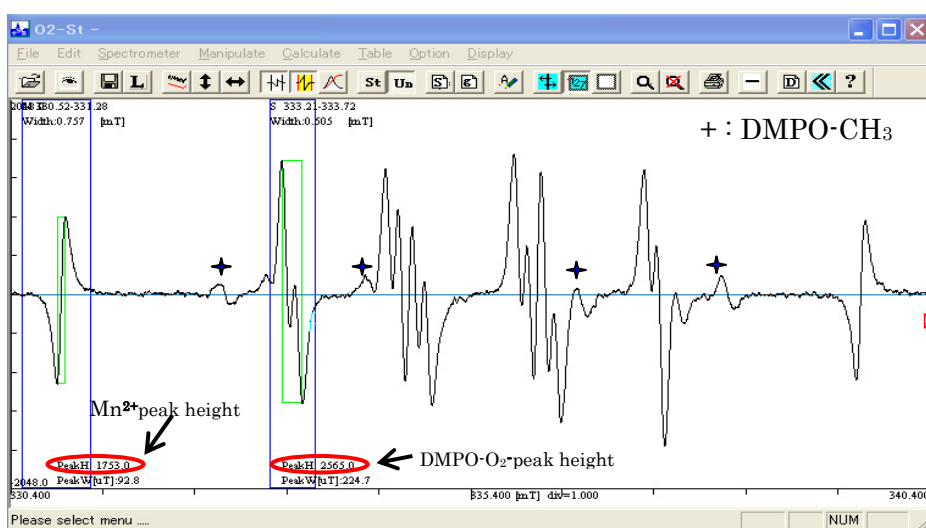
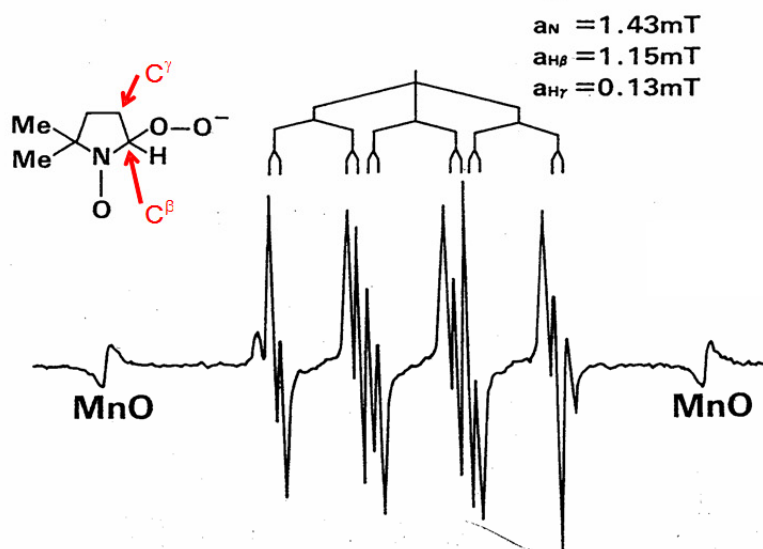

Fig.1 DMPO-O₂⁻ spectrum (when DMSO is added).
Fig.2 ESR spectrum of DMPO-O₂⁻.
5. Measure the height of Mn²⁺ peak and DMPO-O₂⁻ peak from the spectrum, and calculate the relative intensity (R=DMPO-O₂⁻/Mn²⁺) as shown in Fig.1.
Fig. 2 shows the DMPO-O₂⁻ spectrum. Here, the unpaired electrons are localized on the N-O orbital and the signal is split into 12 lines due to hyperfine interaction with N, H-atom (β), and H-atom (γ). The weak signals observed on both sides of these signals are derived from co-existing DMPO-OH. In order to reduce the quantity of DMPO-OH, DMSO should be added. In this case, DMPO-CH₃ (marked "+" in Fig.1, composed of 6 lines, 2 of which overlap with DMPO-O₂⁻ signals and are obscured) generated from the reaction of DMSO with HO· is observed.